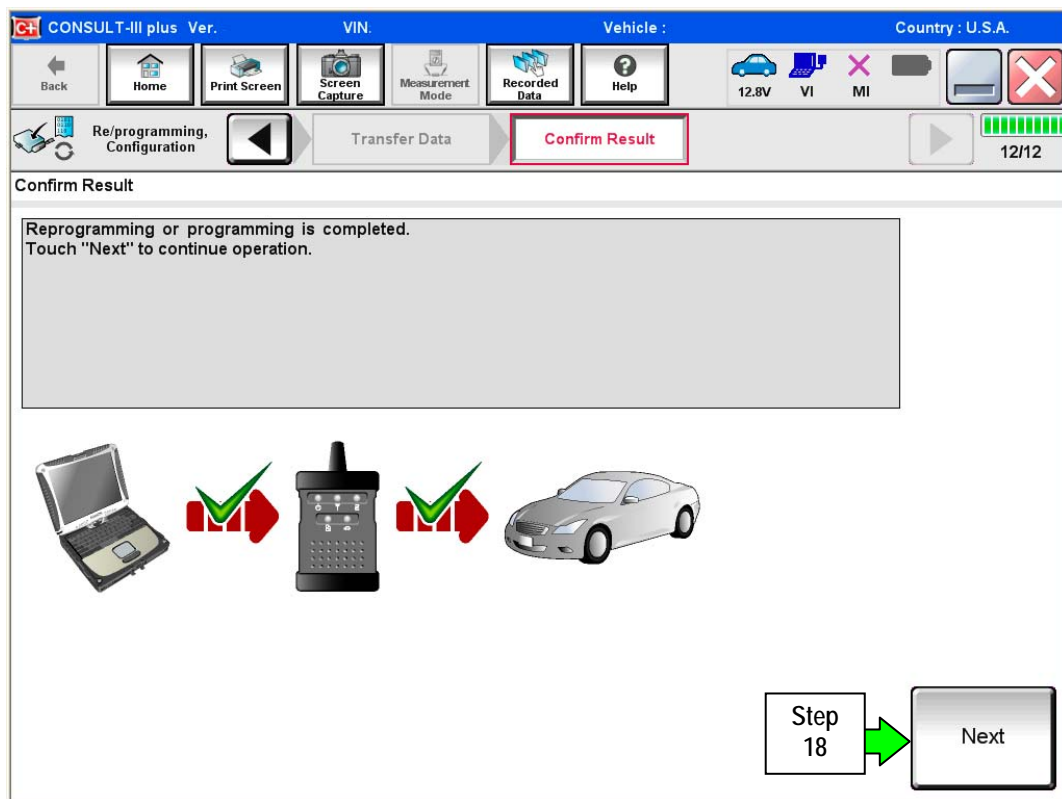

Figure 10
16. When the screen in Figure 10 displays, reprogramming is complete.
NOTE: If the screen in Figure 10 does not display (reprogramming does not complete), refer to the information on the next page.